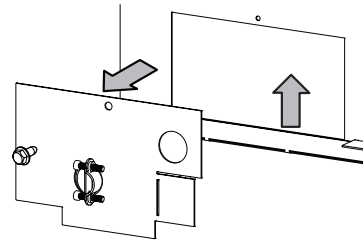

Figure 40
3. Remove the electrical access cover panel from the left end of the fireplace. **See Figure 40.**
6. Re-install the junction box into the firebox using the screw removed in step 3. **See Figure 40.**